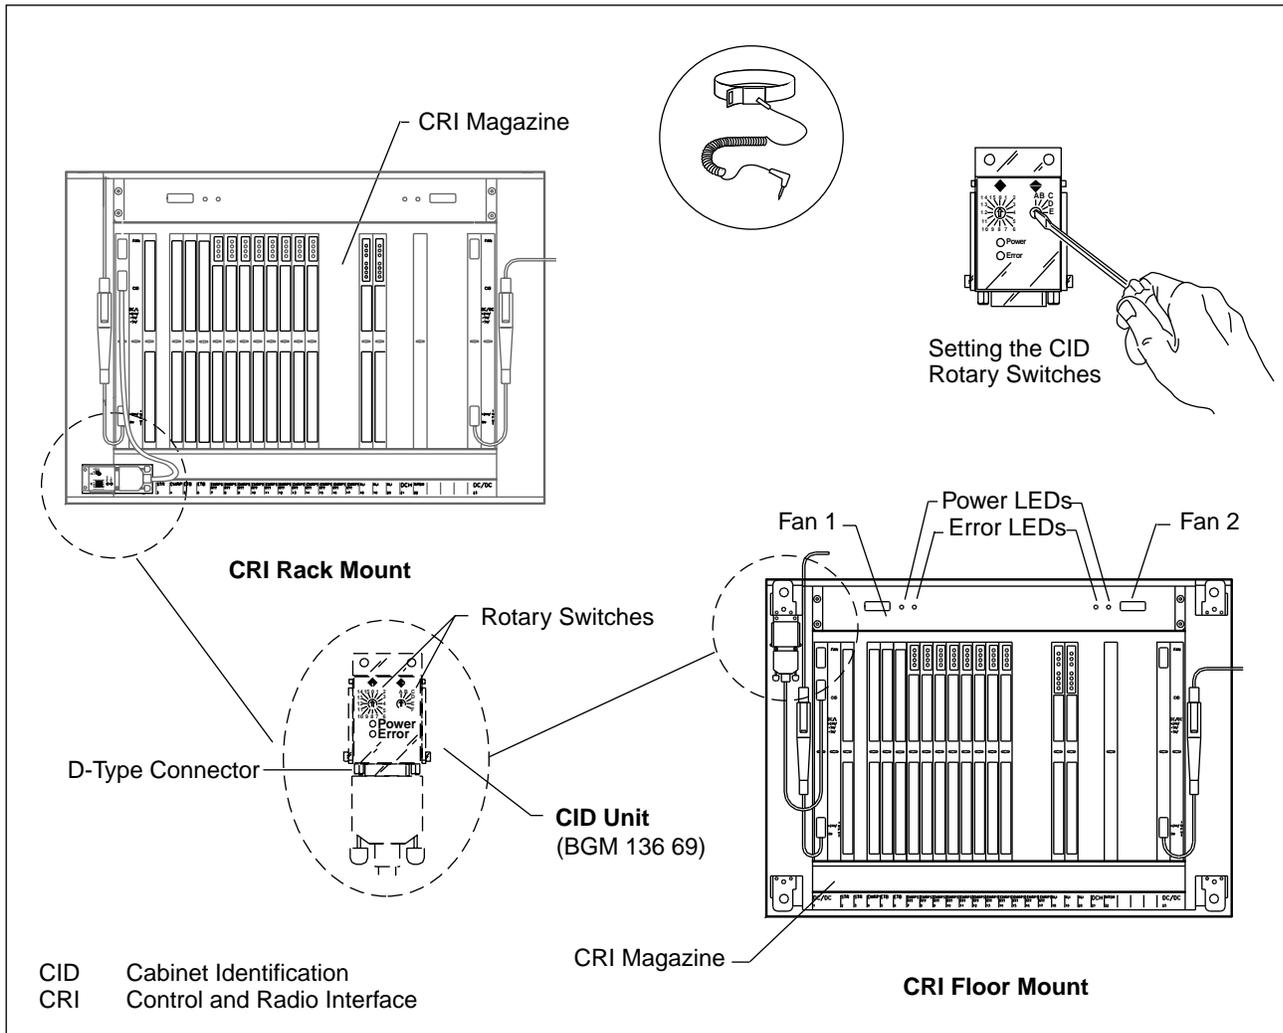

Figure 6-1. CID Unit
4. Record the settings for the two rotary switches on the CID Unit. See Figure 6-1 on page 6-11 for the location of the CID Unit rotary switches.
5. Disconnect the CID cable from the D-type connector on the CID Unit. See Figure 6-1 on page 6-11 for the location of the D-type connector on the CID Unit.
9. Using a small, flat-head screwdriver, set the rotary switches to the same settings recorded in Step 4 on page 6-11. See Figure 6-1 on page 6-11.